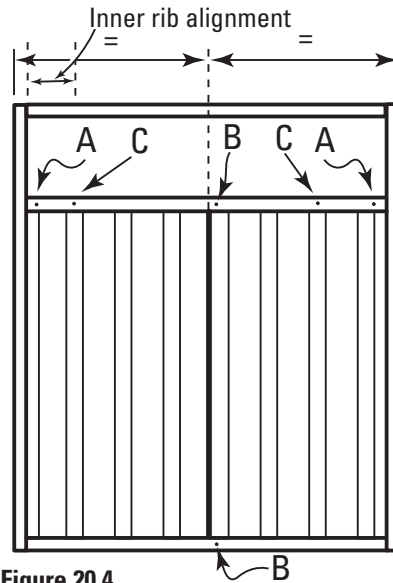

Figure 20.4
10. For extra wide gate with 'Plus' option additional screws are required (Figure 20.4):
For gate (standard width and extra wide) with 'Plus' option, drive an additional #10-16x16 screw into the two corners of the lower top rail passing through the lattice or slats clip in alignment with Position A (Figure 20.4).